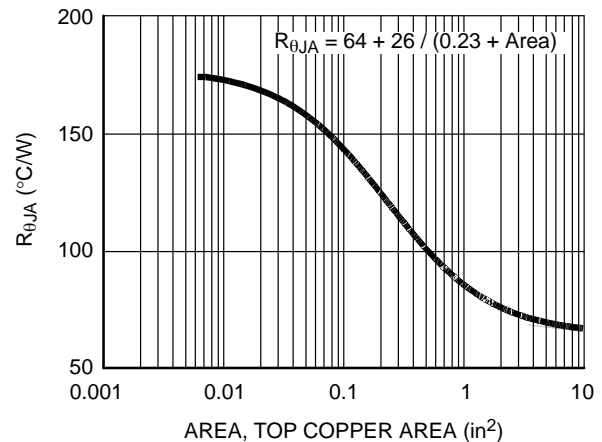

Figure 20. Thermal Resistance vs. Mounting Pad Area
**onsemi** provides thermal information to assist the designer's preliminary application evaluation. Figure 20 defines the  $R_{\theta JA}$  for the device as a function of the top copper (component side) area. This is for a horizontally positioned FR-4 board with 1 oz copper after 1000 seconds of steady state power with no air flow. This graph provides the necessary information for calculation of the steady state junction temperature or power dissipation. Pulse applications can be evaluated using the **onsemi** device Spice thermal model or manually utilizing the normalized maximum transient thermal impedance curve.
Thermal resistances corresponding to other copper areas can be obtained from Figure 20 or by calculation using Equation 2. The area, in square inches is the top copper area including the gate and source pads.